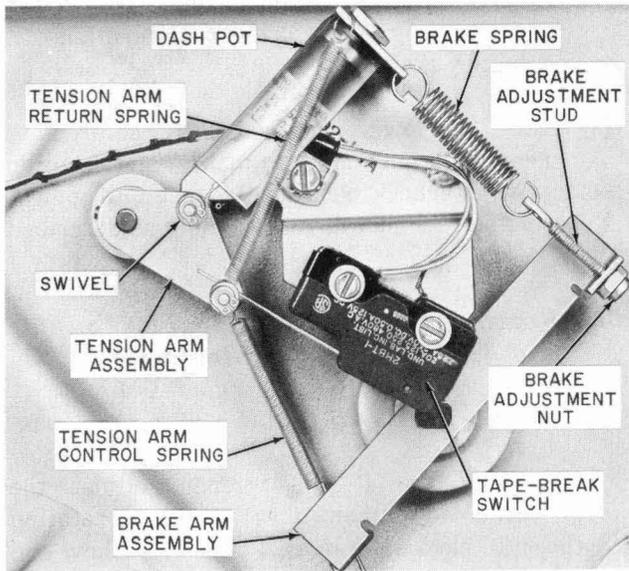

Fig. 12—Rear Components of Supply Brake and Tension Arm Assembly
(1) Using the R-3193 wrench, adjust the brake adjustment nut (Fig. 12) by rotating the nut clockwise if the tension is low and counterclockwise if the tension is high.
(2) Tension may be measured, roughly, from the rear of recorder by gauging the tension applied to the brake arm. Attach the hook of a R-2771 spring balance at the hole in the end of brake arm where the tension arm control spring is hooked. Pull spring balance vertically and adjust the brake adjustment nut until the brake arm just starts to move with a force of 2.5 pounds indicated on scale of spring balance.
(3) Perform brake tension test as described in 2.06 and, if necessary, make final readjustment on the brake adjustment nut to bring tension requirements within limits.